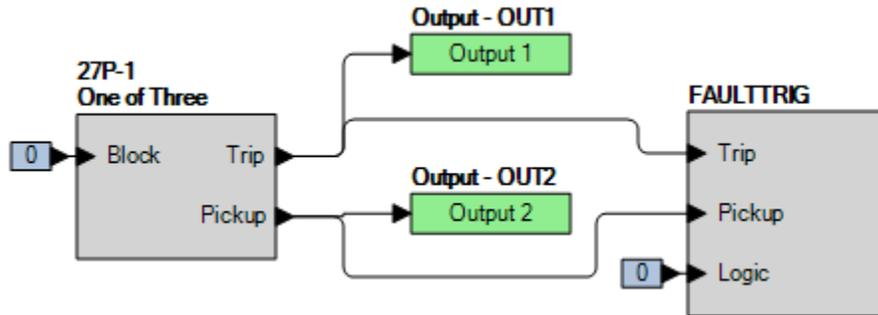

Figure 41-1. BESTlogicPlus Settings
Step 2: Use BESTCOMSPi.us to configure the BESTlogicPlus programmable logic shown in Figure 41-1.
Step 4: Prepare to monitor the 27P-1 function operation. Operation can be verified by monitoring OUT2 (see Figure 41-1).